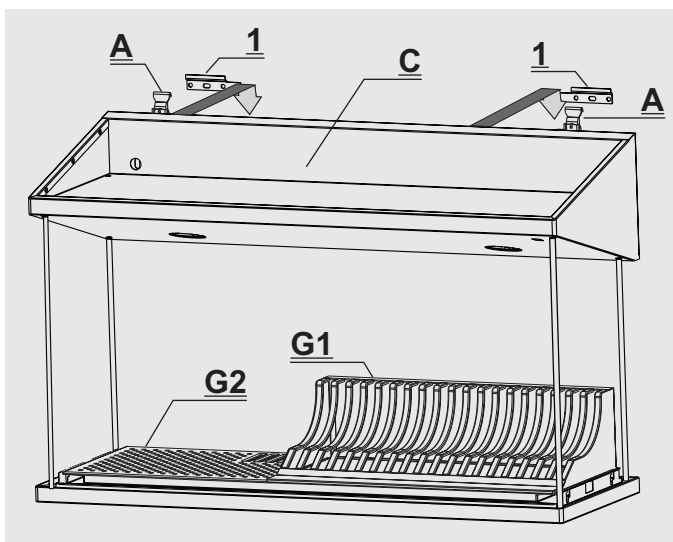

Fig. 2
- Hook the unit body **C** to the brackets **1** (fig. 2).